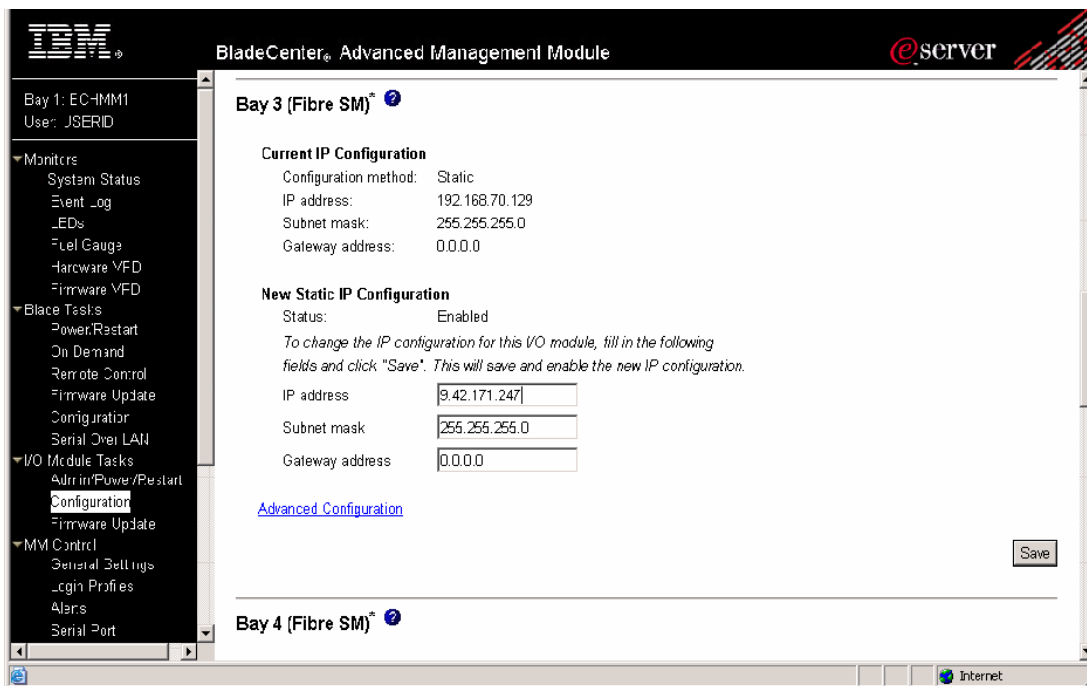
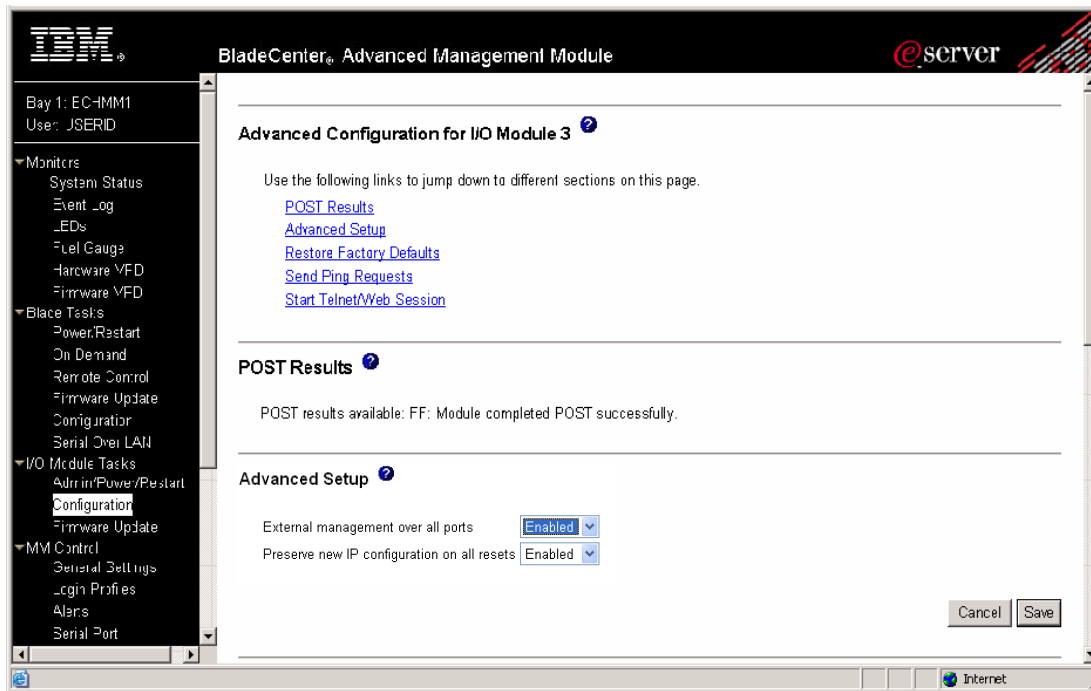

Figure 4-8 Setting Switch Module IP Address
Figure 4-9 Enabling External Ports on switch module
2. Change the IP address and click **Save** (see Figure 4-8 on page 45).
3. While in the window shown in Figure 4-8 on page 45, locate and click **Advanced Configuration** for the switch module. You will see a window similar to Figure 4-9. Ensure that the external ports are enabled. Click **Save**.